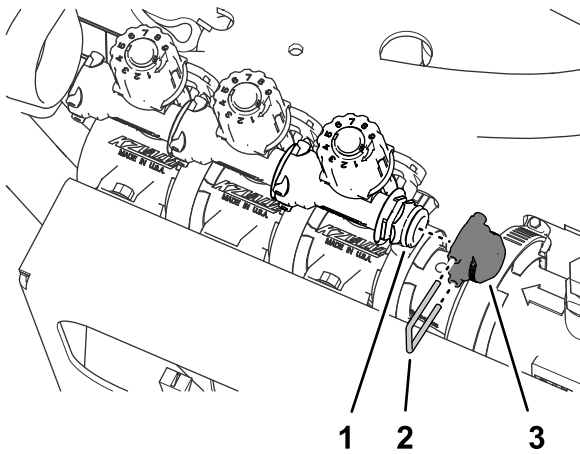

Figure 66
- Remove the retainer that secures the cap to the quick disconnect fitting of the bypass valve, and remove the cap (Figure 66).